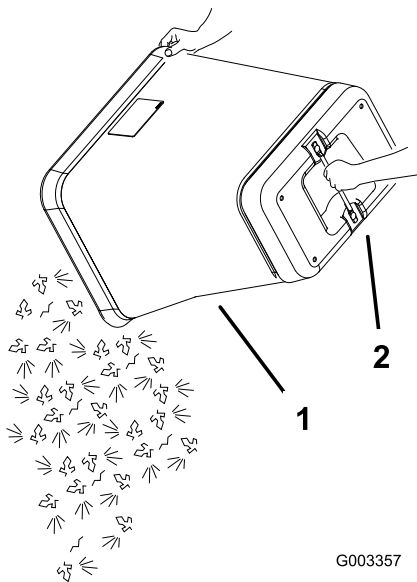

Figure 24
9. Grab the handle on the bottom of the bag and tip it over to empty the bag (Figure 24).